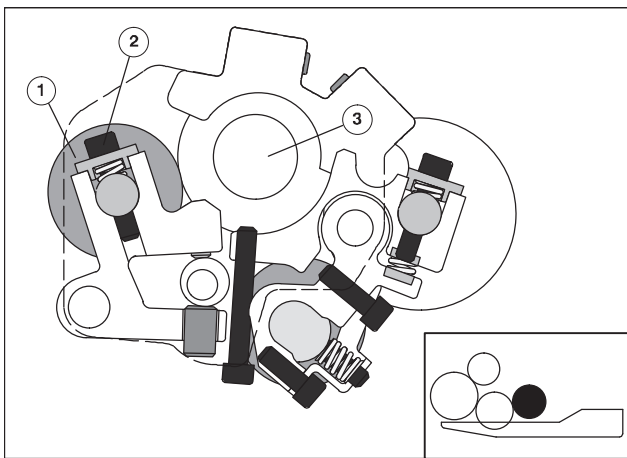

Fig. 43 Removing the metering roller
1. Completely unscrew the Allen screw (Fig. 43/2) on D.S. and O.S. using the operator tool and remove with cap and spring from the roller shaft.
2. Remove the metering form roller (Fig. 43/1) from the bearings.
The **water pan roller** (Fig. 43/3) is not removable.